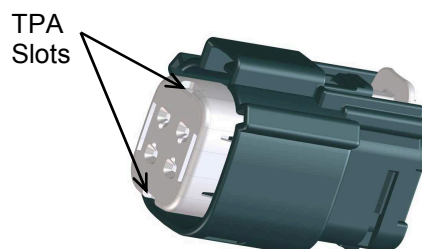

Figure 7: TPA Slots
- If it is not in the pre-locked position, insert the blade of a screwdriver into the slots in the TPA found adjacent or opposite to the latch. Apply slight pressure and pry the TPA out until it clicks (See Figure 7). You are now ready to insert terminals and/or circuit plugs.